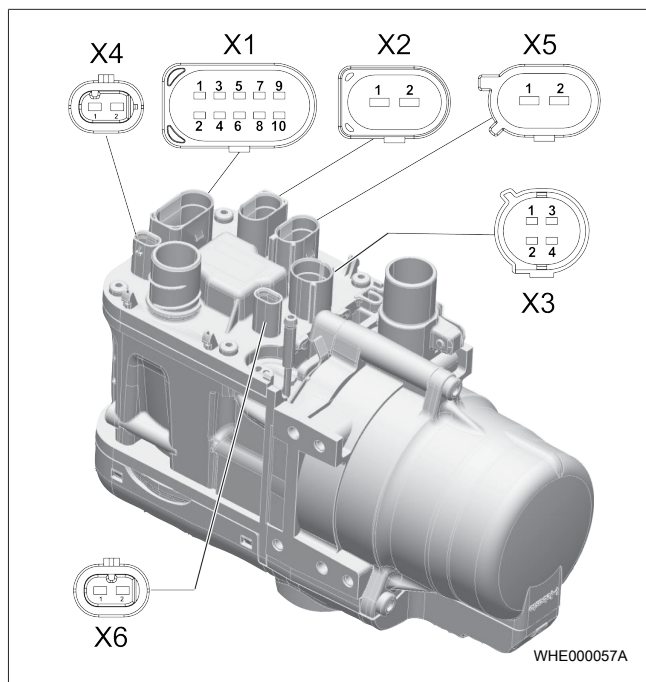

Fig. 21
**NOTE**  Fig. 21 shows the plug assignment.